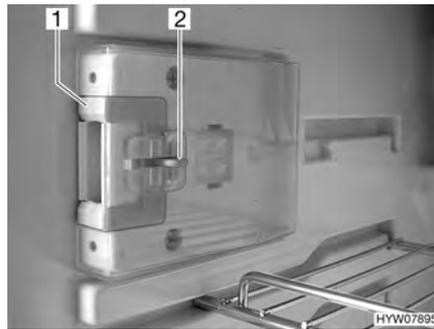
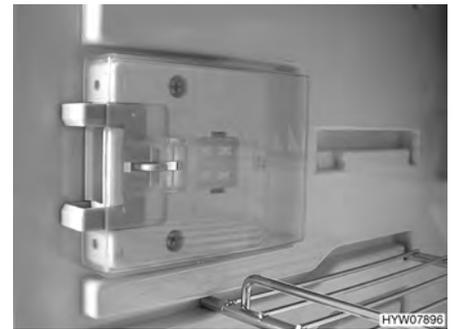

Fig. 199 Locking device in normal position
Fig. 200 Locking device in ventilation position
- Press down the unlocking device (Fig. 199,2).
- Push locking device (Fig. 199,1) forwards (Fig. 200).